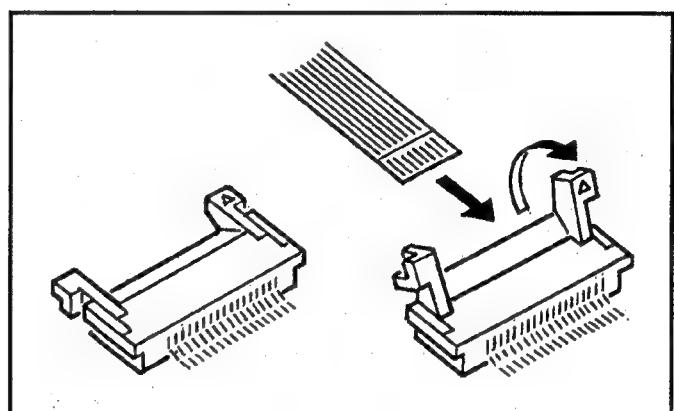

Fig. 10-1-4
**Note:** Be careful when removing the flexible cable from the connector. Refer to the way to remove the connector as shown in Figure 10-1-4.